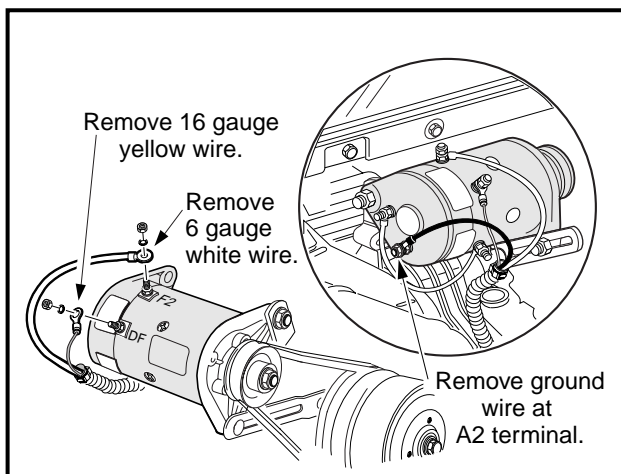

Figure 16-16 Generator Wires
- 3.11. Mark for proper reconnection and then disconnect the 6 gauge white wire (F2 post), 6 gauge black ground wire (A2 post), and 16 gauge yellow wire (DF post) from starter/generator (**Figure 16-16, Page 16-9**).